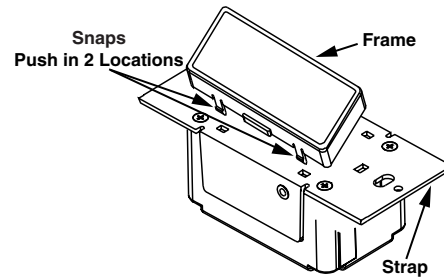

Figure 2-12:
2. The frame has snaps on its sides. Using a small screwdriver, GENTLY remove the frame from the strap. (See Figure 2-12.)